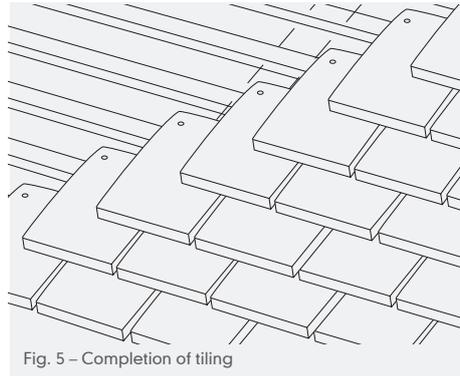

Fig. 5 – Completion of tiling
- 2 Plain tiles can be laid right to left (Fig 5) or left to right. Depending on the fixing specification, tiles can be left out to expose the battens for safe working, and filled in later when details at the ridge, hip, valley etc. have been completed.